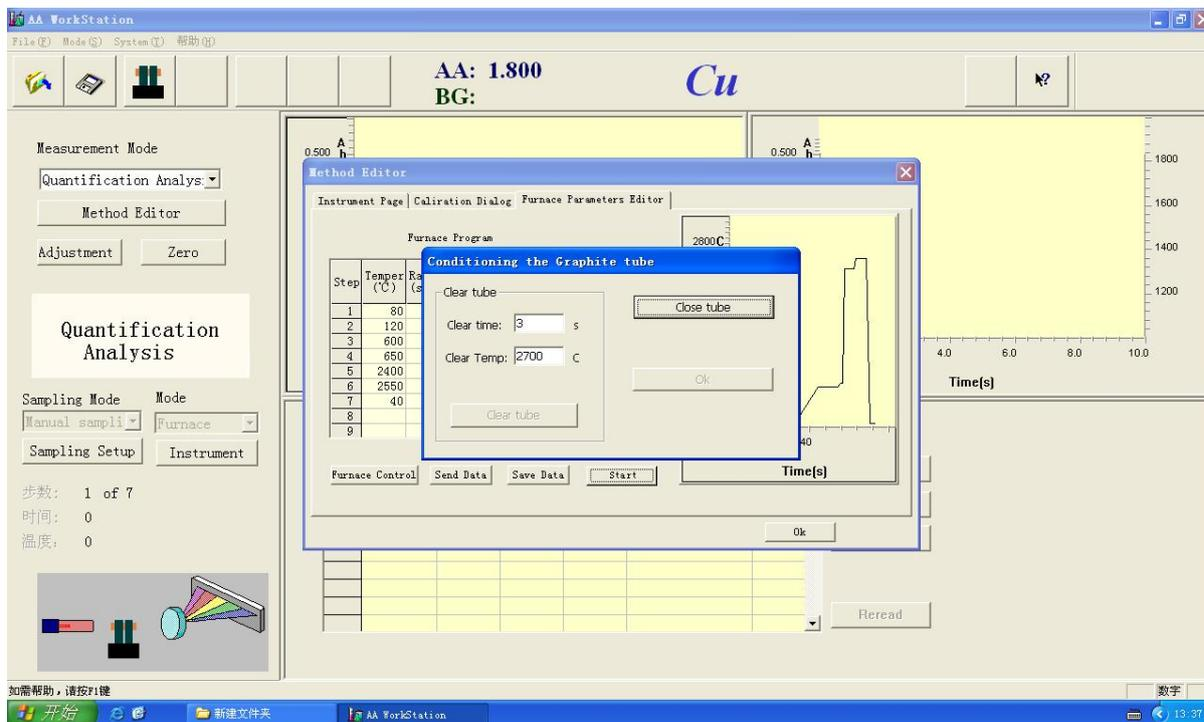

Figure 4-41
6. Press the “Furnace Control” the “Conditioning the Graphite Tube” window pops up (Figure 4-41), set clear time and clear temperature according to actual situation. The range of the clear time is 0~10, range of the clear temperature is 1000~3000.
- Click the “close tube” on the “Conditioning the Graphite Tube” window, the “close tube” changes into “open tube”, the “Clear tube” and “Ok” become bright. Press again the “Open tube”, the “Conditioning the Graphite Tube” window becomes that shown as in Figure 4-41.